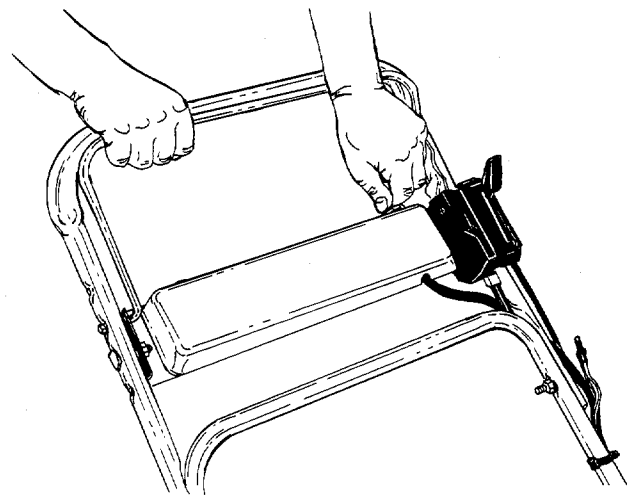

FIGURE 13.
2. Standing behind the unit, depress the blade control handle and hold it against the upper handle as shown in figure 13.